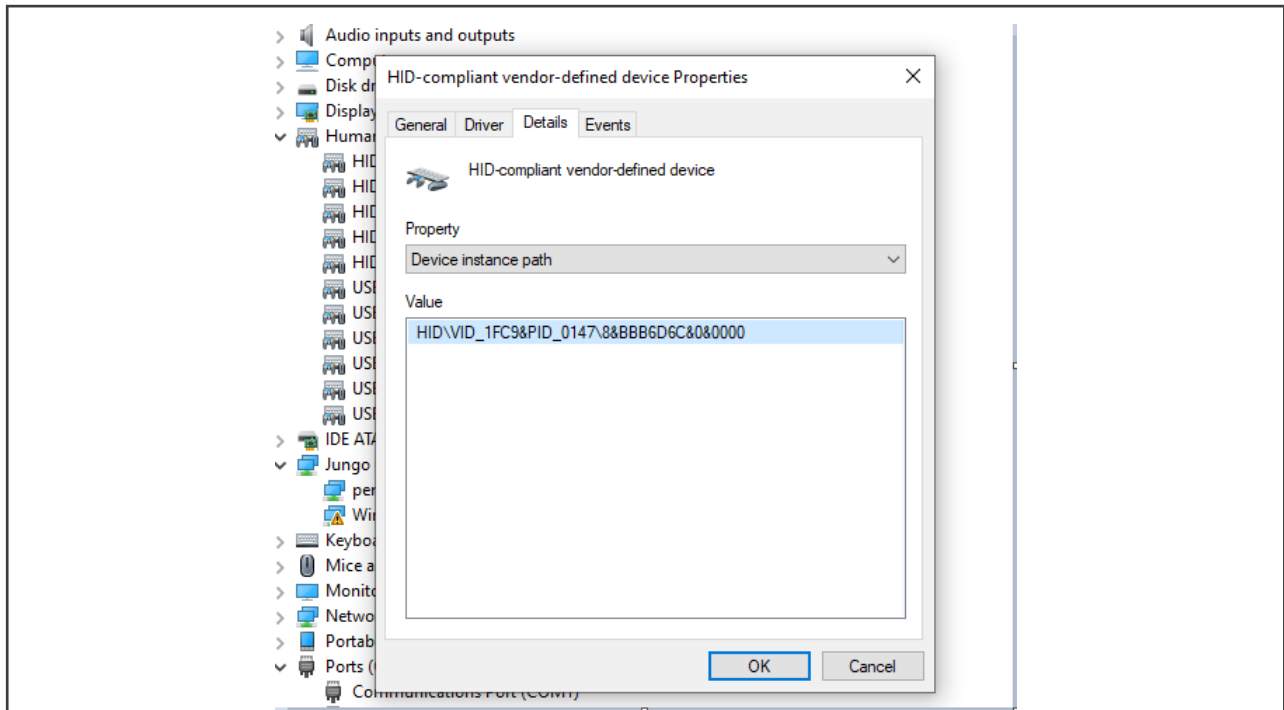

Figure 23. Device as shown in Device Manager
3. The PC recognizes the i.MX8DXL device as (VID:PID)=(1FC9:0147), as shown in Figure 23.